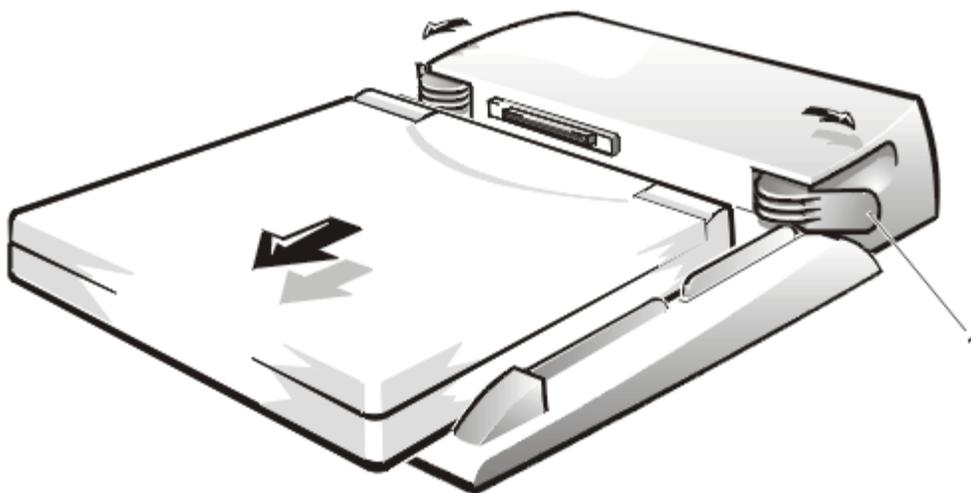

Figure 2. Port Replicator
4. If the computer is connected to a port replicator (see Figure 2), pull both release handles on the sides of the replicator to undock the computer.